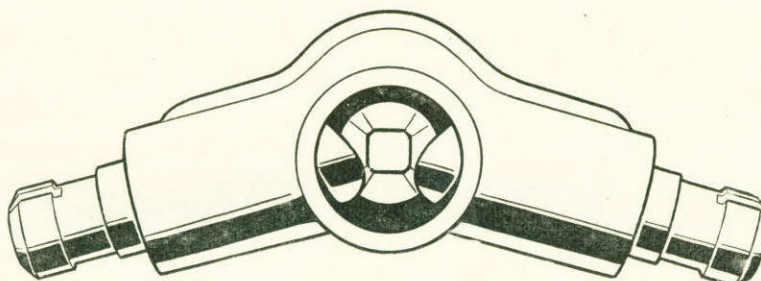

Fig. H-10—Correct pair of plungers in incorrect bores.
- (a) R.H. plunger in L.H. bore and L.H. plunger in R.H. bore (Fig. H-10).